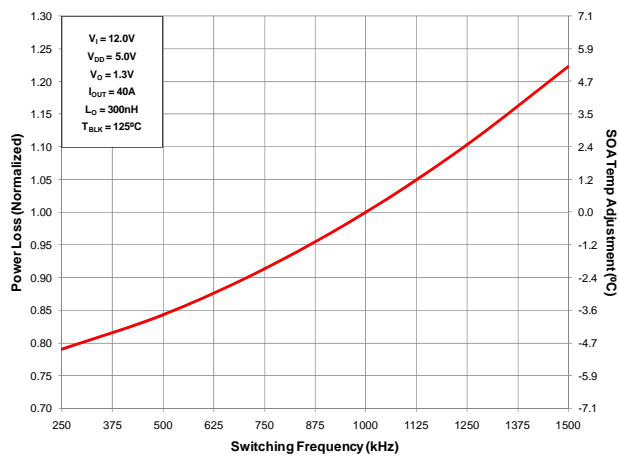

Figure 7 Normalized Power Loss vs. Switching Frequency
- (Figure 7) Normalized power loss for switch frequency ≈ 0.91
- (Figure 7) SOA temperature adjustment for switch frequency $\approx -1.9^{\circ}\text{C}$